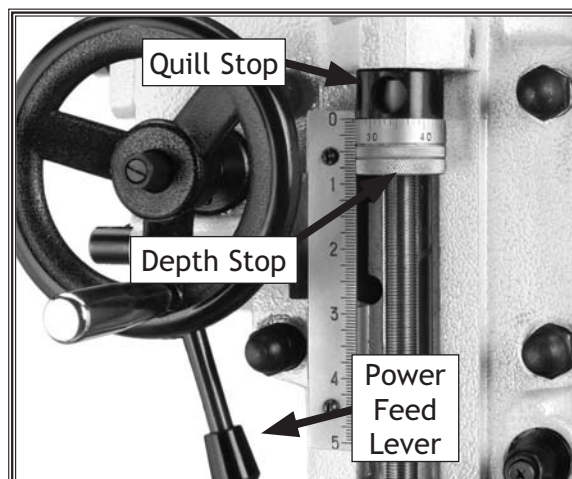

Figure 58. Quill power feed.
2. Engage the power feed lever (**Figure 58**), by pulling to the left.
3. Adjust the depth stop until it is threaded to the top, against the quill stop as shown in **Figure 58**.